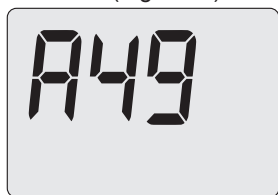

Fig. 8.30
- Press 13 and hold until the LCD display shows the code **A49**, indicating entry into “parameter A49” (Fig. 8.30).
- To return to the parameter list **without activating** the function (Fig. 8.30), press keys 13 or 14.